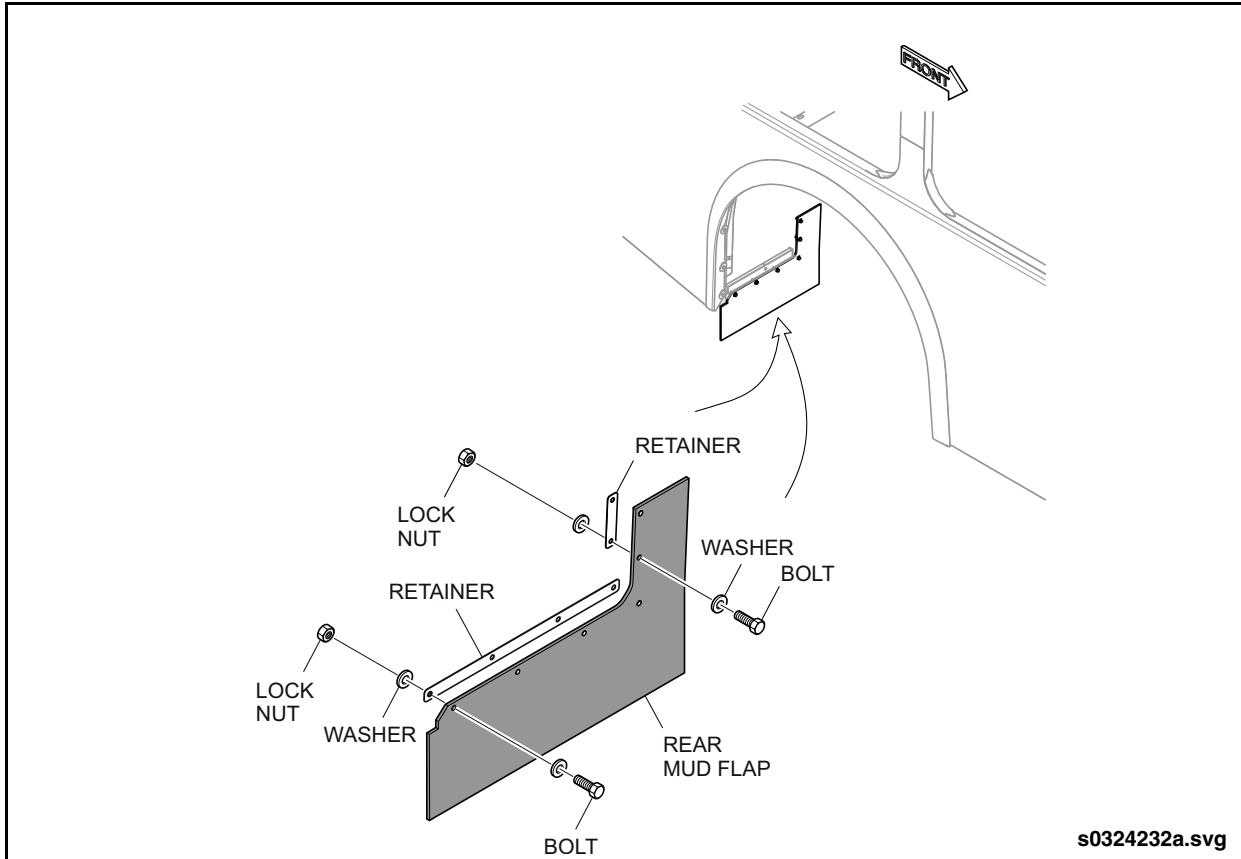

Fig. 13-18: Rear Mud Flap
2. Remove the bolts, lock nuts and retainers from the mud flap mount. See "Fig. 13-18: Rear Mud Flap" on page 46.